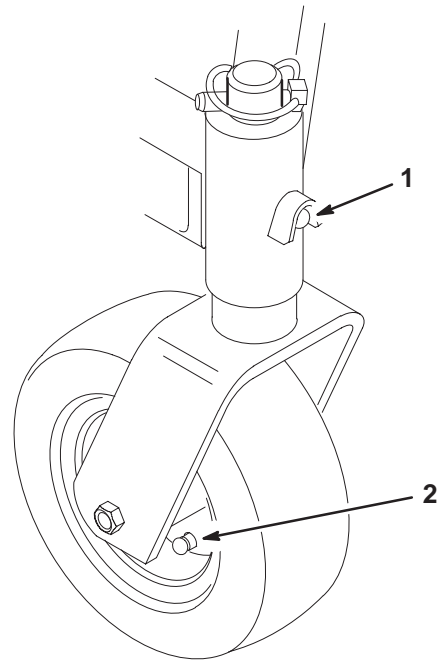

Figure 24
2. Grease the fittings on the carrier frame mounting tubes and castor wheels (Fig. 24).